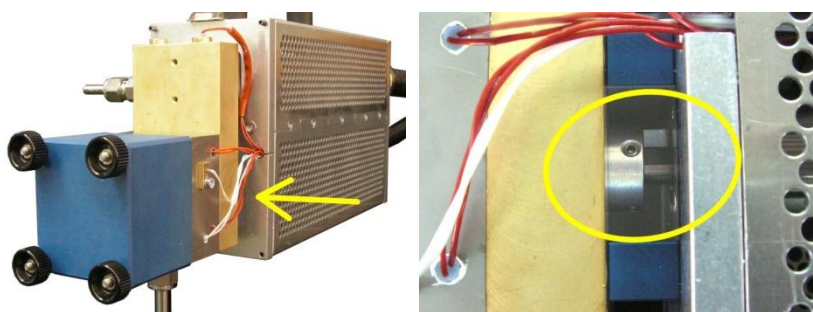

Figure 3-7
- Increase the dilution ratio on the potentiometer. The disk must start to rotate with increasing frequency. The rotational speed can be observed at the coupling element shown in Figure 3-7 when the hot parts protection hood 8) is removed.